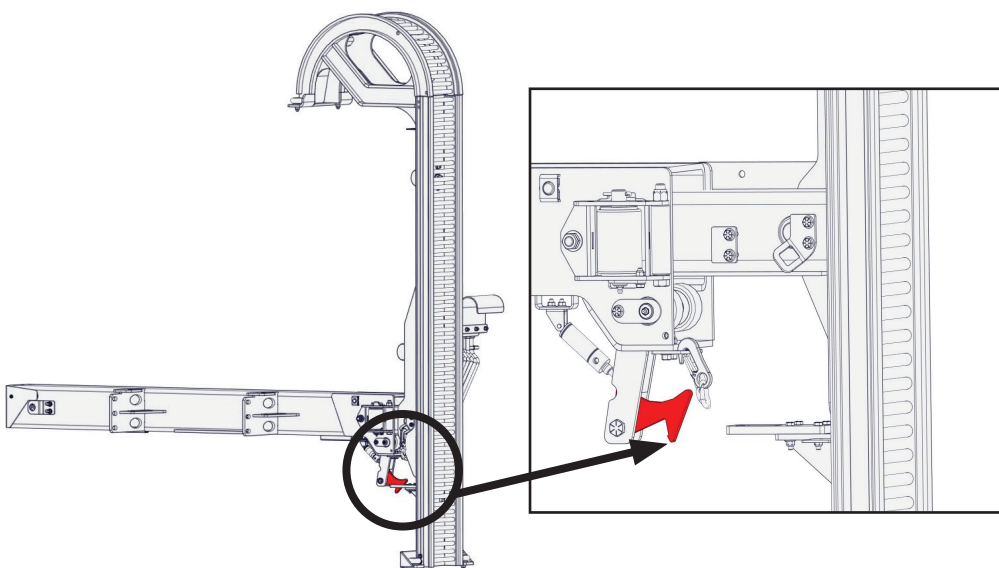

Figure 2
1. Locate the arm hook latch component on the boom of the arm mast assembly (Figure 2).